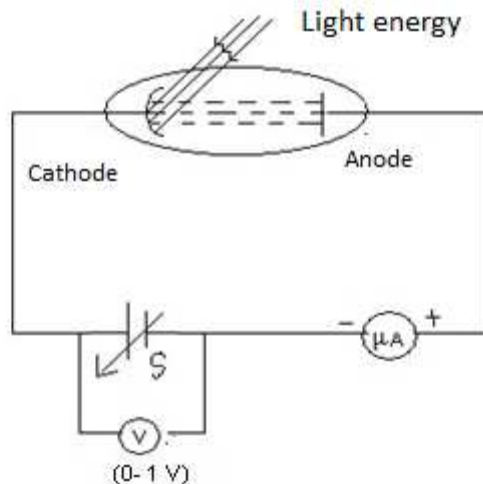

Figure 2: Circuit diagram of photoelectric cell for negative anode potential.
1. Connect the circuit as shown in the figure 2.